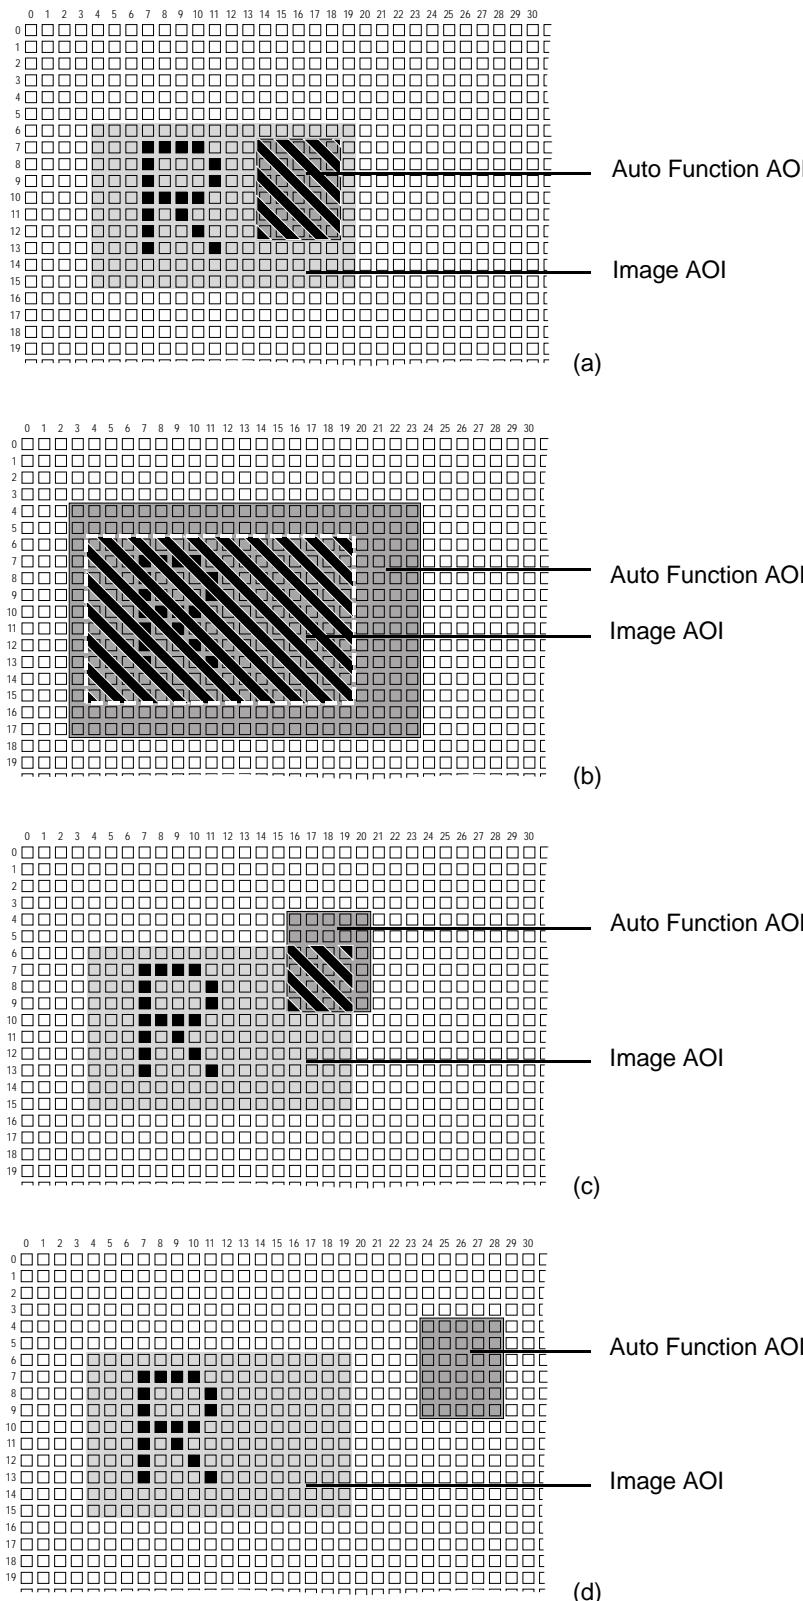

Fig. 52: Various Degrees of Overlap Between the Auto Function AOI and the Image AOI
Different degrees of overlap are illustrated in Figure 52. The hatched areas in the figure indicate areas of overlap.
- If the Auto Function AOI is completely included in the Image AOI (see (a) in Figure 52), the pixel data from the Auto Function AOI will be used to control the image property.
- If the Image AOI is completely included in the Auto Function AOI (see (b) in Figure 52), only the pixel data from the Image AOI will be used to control the image property.
- If the Image AOI only partially overlaps the Auto Function AOI (see (c) in Figure 52), only the pixel data from the area of partial overlap will be used to control the image property.
- If the Auto Function AOI does not overlap the Image AOI (see (d) in Figure 52), the Auto Function will **not** or only to a **limited** degree control the image property. For details, see the sections below, describing the individual auto functions.